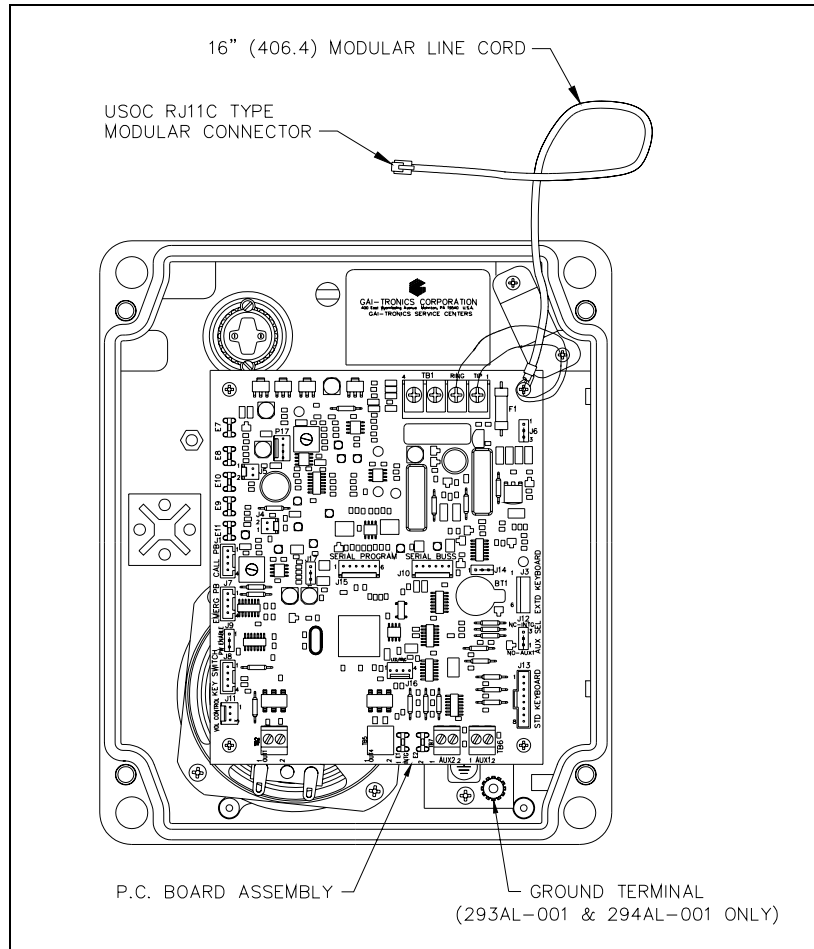

Figure 8. Models 293-001, 293AL-001, and 294AL-001 - Component Locations
6. Connect the telephone's modular plug to a USOC RJ11 or CA11A (Canada) modular connector or (if applicable) the telephone line suppressor. Refer to Figure 8 for the Model 297-001 and 298-001 component locations.
The telephone can be programmed remotely from another telephone, or locally at the emergency telephone. To program the Model 294AL-001 and Model 298-001 locally, the front panel keypad can be used. However, to program the Models 293-001, 293AL-001, and 297-001 locally, a Model 51035-011 Keypad must be connected to J13 on the telephone PCBA using the Model 51504-048 Keypad Cable Assembly. Refer to Figure 8 for locations. Refer to the Local Programming section on page 17.